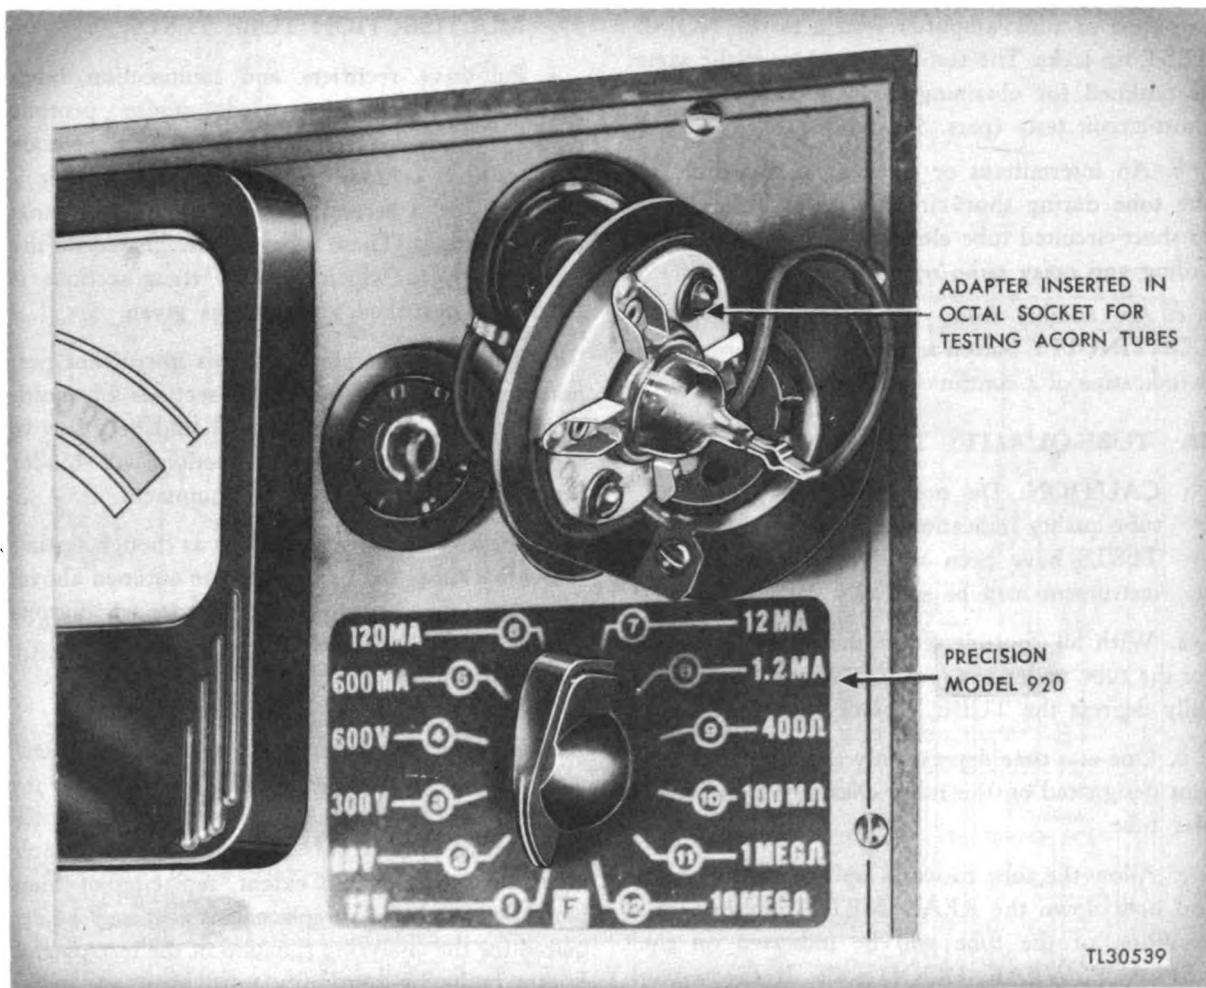
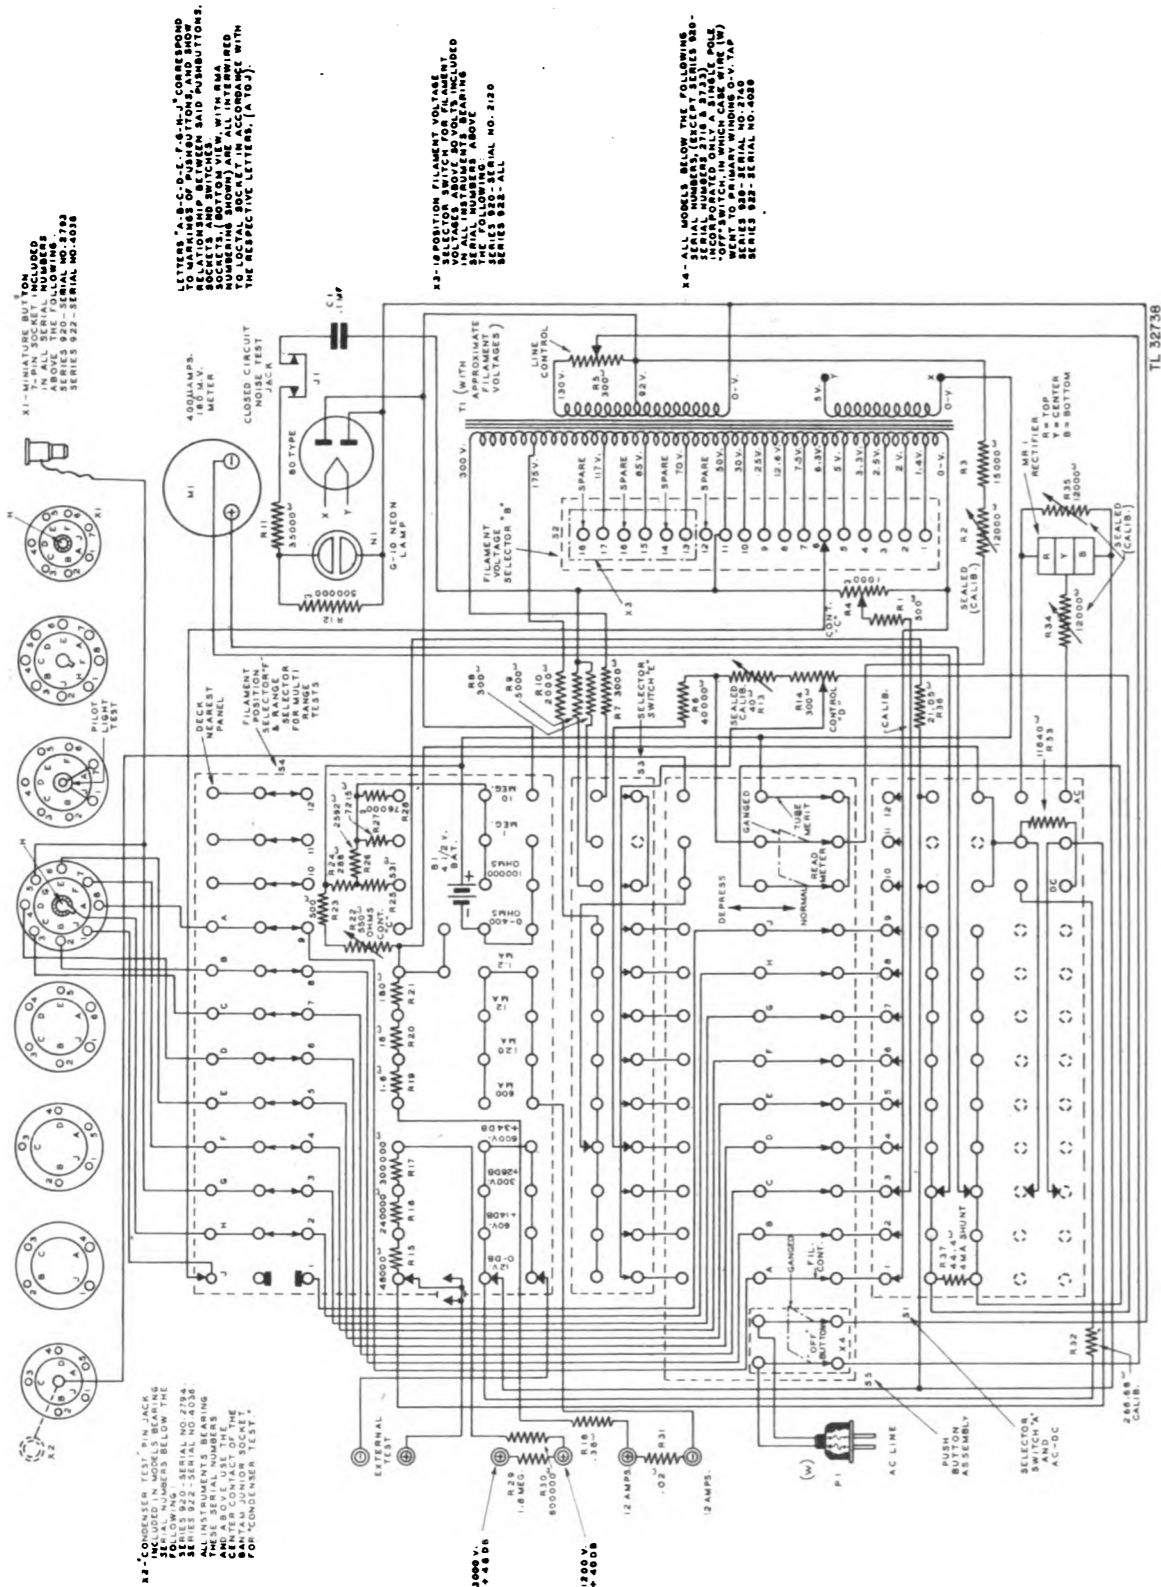

Figure 16. Tube Checker I-157, Precision model 920, acorn-tube adapter.
Figure 17. Tube Checker I-157, Precision model 920, schematic diagram.
52. **GENERAL.** Precision model 920 tube checker is a modern, push-button operated, radio-tube tester combined with rotary-range selective systems for obtaining measurements of a-c and d-c voltages, ohms, decibels, and current. The front view of the instrument is shown in figure 15 and the schematic in figure 17. Since the base sockets available upon the panel do not include sockets for the acorn-tube types, a special adapter is supplied with the instrument. The manner in which this adapter is plugged into its socket, which is located immediately above and to the right of the filament-selector switch F, is illustrated in figure 16.
a. *Limitations.* (1) Tubes that appear good in tests still may not operate properly in the circuits to which they are applied. Such tubes should be replaced.
a. *General.* This tester is a precision instrument and no maintenance will be attempted by inexperienced personnel. Maintenance of this tester will consist chiefly of fuse and tube replacement and, to a limited extent, replacing of component parts. Battery replacement also may be required for the analyzing function of the instrument. Locate faults by continuity tests, resistance measurements, voltage measurements, and visual inspection. The schematic diagram, figure 17, shows the values of component parts and power-supply voltages.